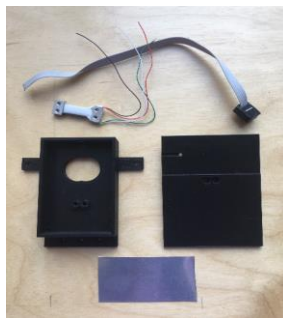

Fig. 4.1
- Get 3D-printed parts **WeightingStage_bottom** and **WeightingStage_top**, a **micro load cell** (Phidgets, 100g), a piece of **aluminum sheet** (2.5"x1.25"x0.016") and a **flat ribbon cable** of 20 cm with one end having 6-pin (2x3) female connector (Fig.4.1).